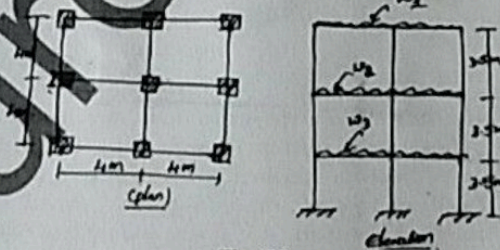

Fig.Q8
- 8 The plan and elevation of a three storey building (RCC) is shown in Fig.Q8. The building is located in Zone-V. The type of soil encountered is medium stiff and it is proposed to design the building a special moment resisting. Given $w_1 = 640$ kN, $w_2 = 688$ kN, $w_3 = 688$ kN.